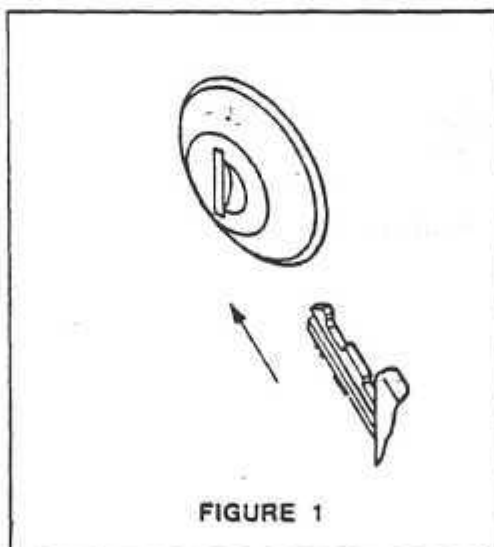

FIGURE 1
4. With adhesive applied, position the molding sections over the folded outer edge of the stainless steel panel and over the outer lip of the cover's plastic inner panel as indicated below in Figure 1.
In order to properly insert the door key into the door lock's key slot, the slide plate, covering the key slot, must first be pushed aside with the key. This is best done by placing the tip of the key at an angle into the "crescent-shaped" recess, sliding the cover plate aside with the tip of the key and then inserting the key (Figure 1).